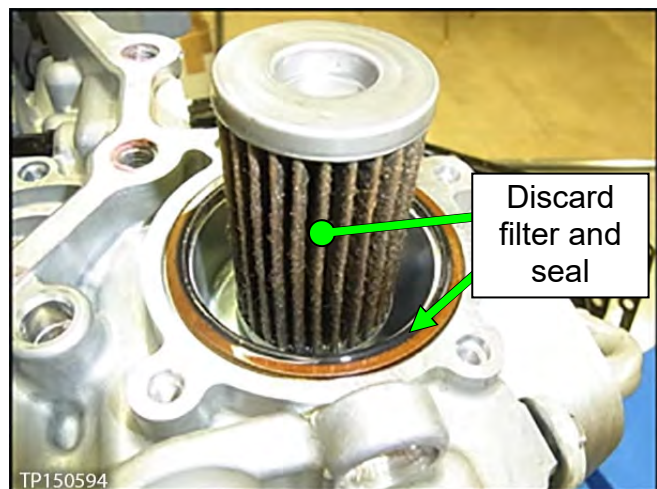

Figure 49
2. Remove the CVT fluid filter with grommet seal and O-ring seal (see Figure 49).
- Figure 49 does not show the grommet seal. It is fitted to the bottom end of the filter.